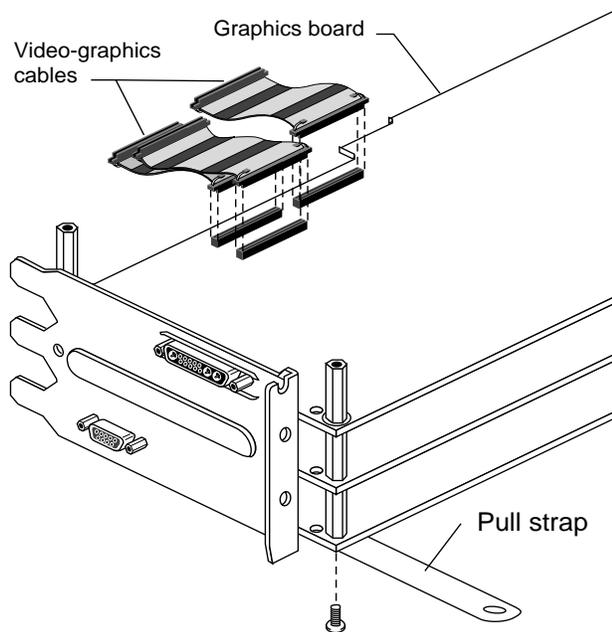
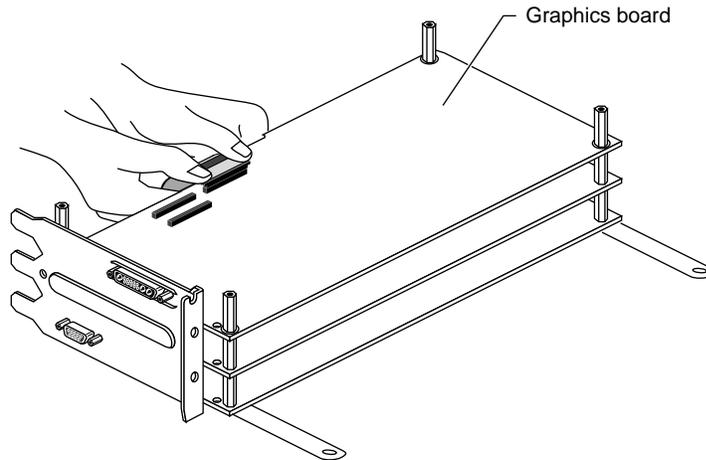
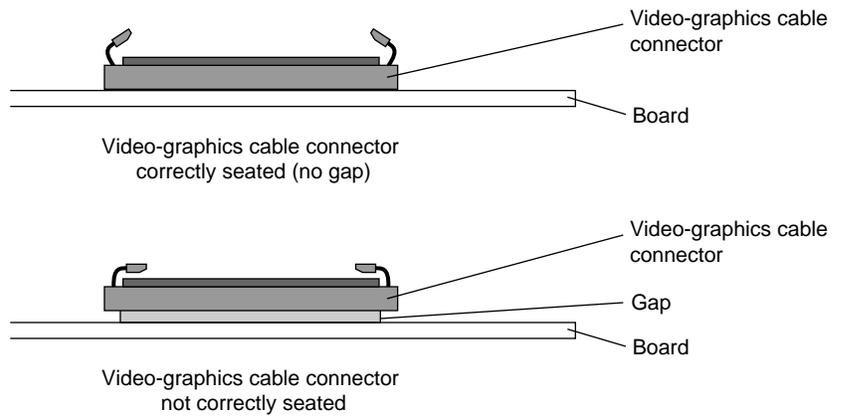

Figure 2-20 Attaching the Video-Graphics Cables to the Graphics Board
Figure 2-21 Squeezing the Video-Graphics Cables Into the Connector
Figure 2-22 Side Views of the Video-Graphics Connector
7. Peel the adhesive strip covers off both ends of the pull straps. Attach the pull straps to the bottom of the graphics board set using the screws provided (Figure 2-20). (You can turn the board upside down.)
1. Attach the two video-graphics cables to the graphics board connectors (Figure 2-20 and Figure 2-21).
Tip: Use your thumb and fingers to squeeze the cable connectors into the connectors on the board. (Figure 2-21). Attach connectors one at a time. Figure 2-22 provides a side view of a correctly and incorrectly seated cable connector